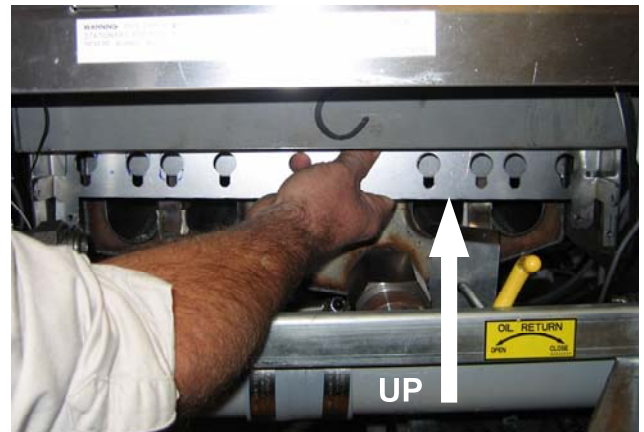

Figure 12: Slide the brace up, flush with the frypot.
- G. Slide the brace up so that it is flush with the frypot (Figure 12). Ensure the holes on the tabs at each end of the brace are aligned with the matching holes on the fryer. Secure the brace to the fryer at both ends by using a 1/4-20 self-tapping screw on the upper hole and a #8 sheet metal screw on the lower hole.